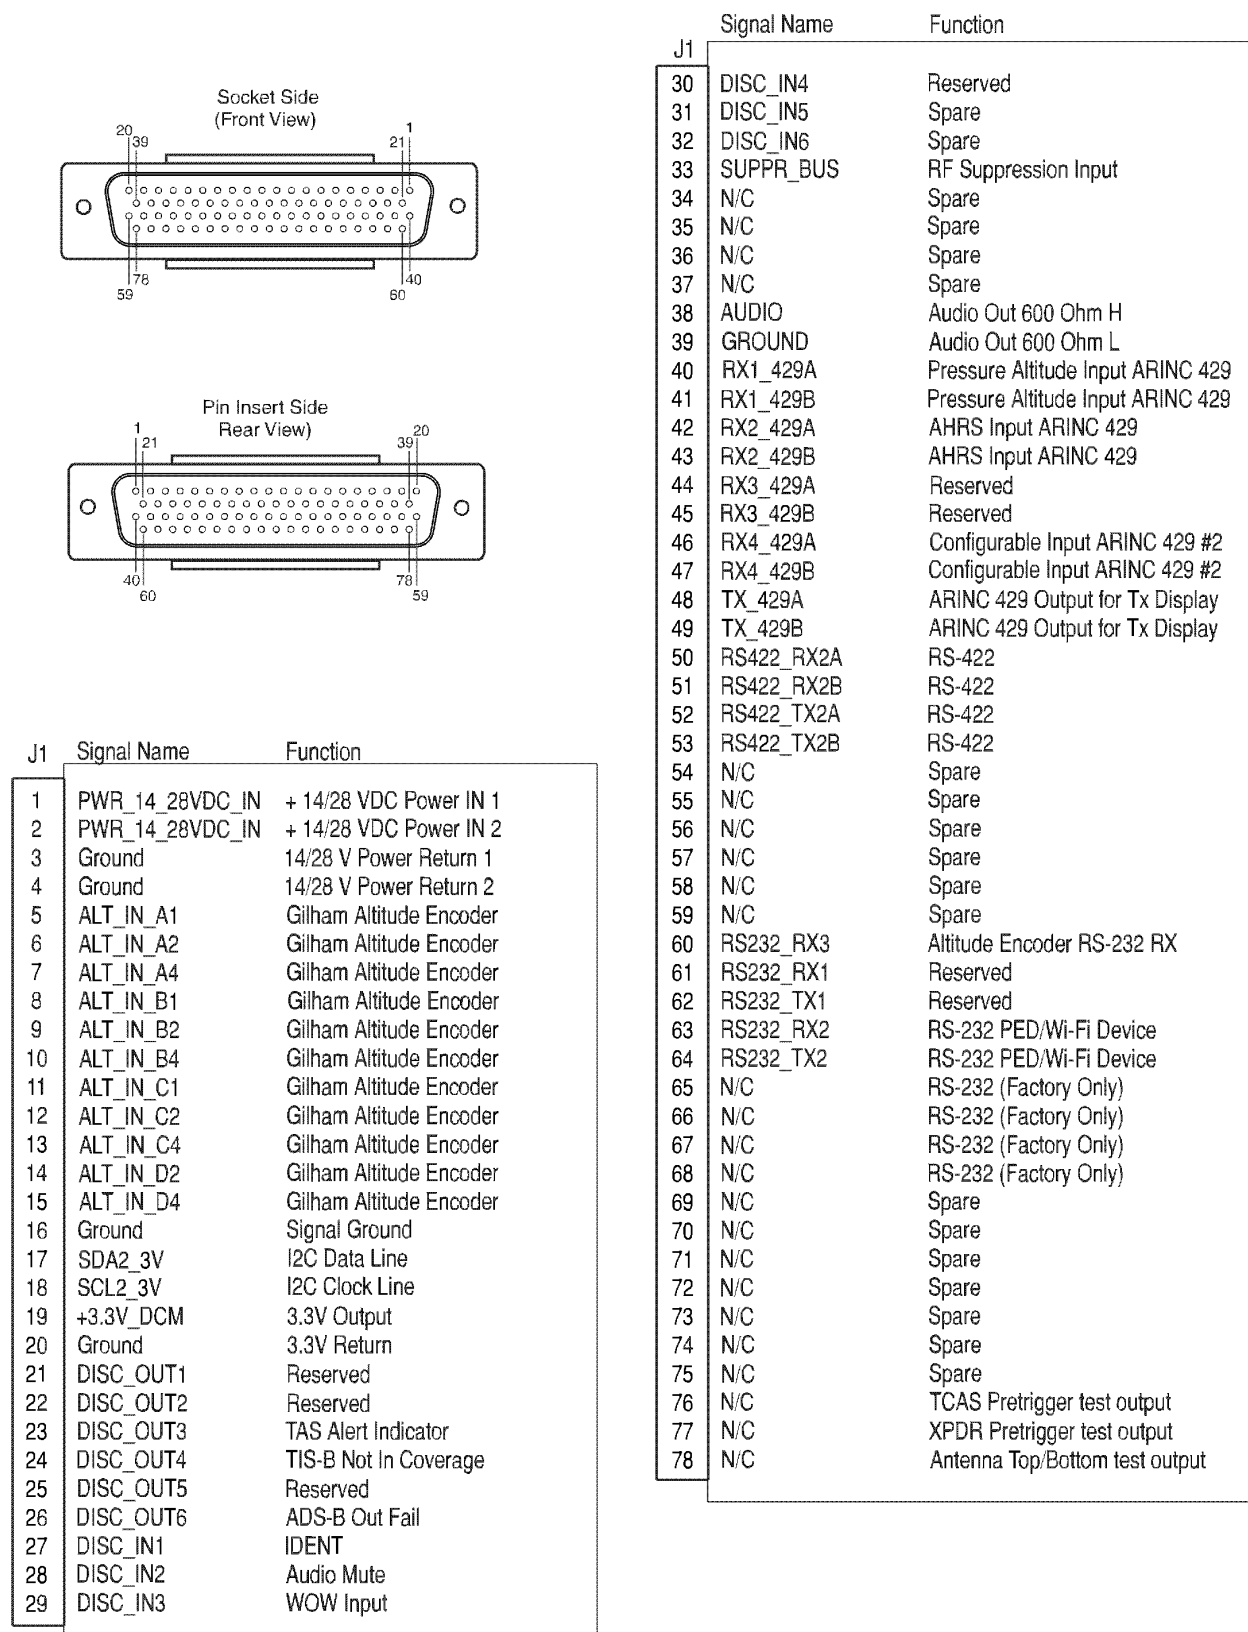

Figure 2-4: Mating Connector (P1) and Pin Assignments
3. Refer to Figure 2-4 for pin locations, signal names, and function. Connector information for P1 is supplied in the recommended installation kit. The assembly requirements for the P1 mating connector are shown in Figure 2-5.